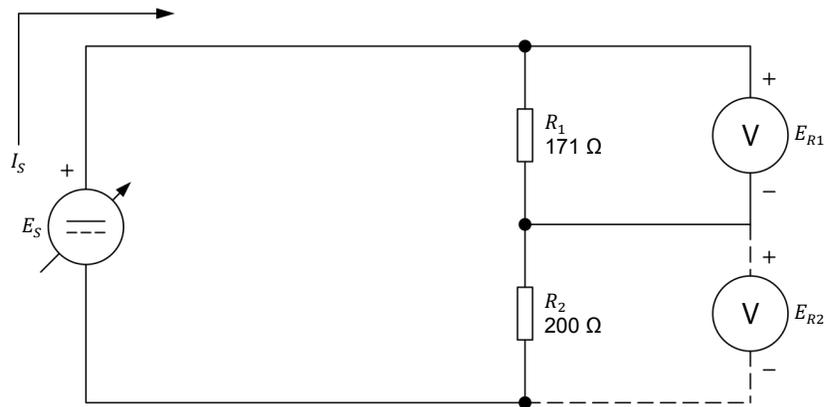

Figure 26. Measuring power in a circuit with resistors in series.
12. Set up the circuit shown in Figure 26. To obtain the resistor arrangement of Figure 26, make the necessary connection(s) and switch settings on the Resistive Load module.
The voltage across resistor R_2 will be measured separately in another step. For this reason, the voltmeter symbol is dashed for E_{R2} in Figure 26.
15. Disconnect the voltmeter from resistor R_1 and connect it across resistor R_2 , as shown in Figure 26.